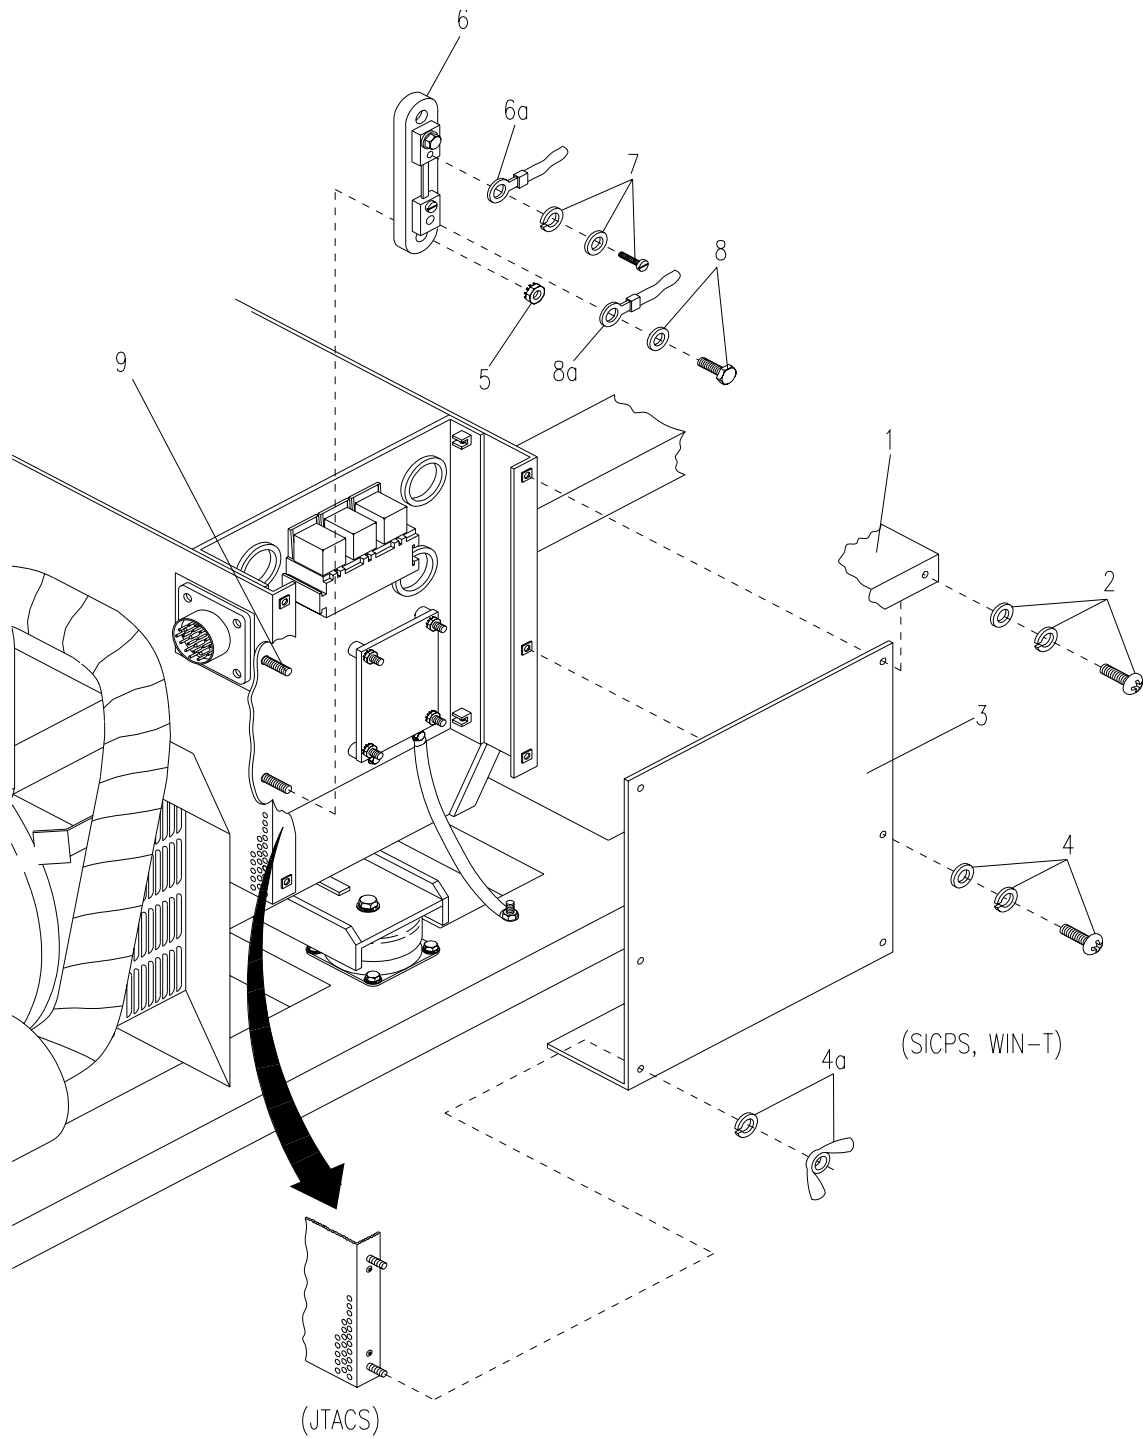

Figure 4-43. Current Shunt
- a. Remove four screws (JTACS), or slotted hex-head bolts (SICPS and WIN-T), flat and lock washers (2, Figure 4-43), and generator housing top cover (1).
- b. Remove two screws, two wing nuts and lock washers (4a) (JTACS), or four slotted hex-head bolts (SICPS and WIN-T), flat washers and lock washers (4) and generator housing side cover (3).
- c. Remove two machine screws, lock washers and flat washers (7) from shunt (6). Tag and remove electrical leads (6a) from shunt.
- d. Remove two hex-head bolts and flat washers (8) from shunt (6). Tag and remove electrical leads (8a) from shunt.
- h. Remove three bolts and lock washers (4) and regulator box (2).
- i. Remove two captive screws (1) and flat washers from regulator box (2).
- j. Maneuver regulator box to access machine screws (9, Figure 4-43) and nuts with captive washers (5) securing shunt (6) to box. Remove machine screws (9) and nuts with captive washers (5) and current shunt (6).
- q. Install electrical leads (8a, Figure 4-43) to shunt and secure with two hex-head bolts and flat washers (8).
- r. Install electrical leads (6a) to shunt and secure with two machine screws (7).
- s. Install two screws, two wing nuts and lock washers (4a) (JTACS), or four slotted hex-head bolts (SICPS and WIN-T), flat and lock washers (4), and generator housing side cover (3).
- t. Install generator housing top cover (1) and secure with four screws (JTACS), or slotted hex-head bolts (SICPS and WIN-T), flat and lock washers (2).